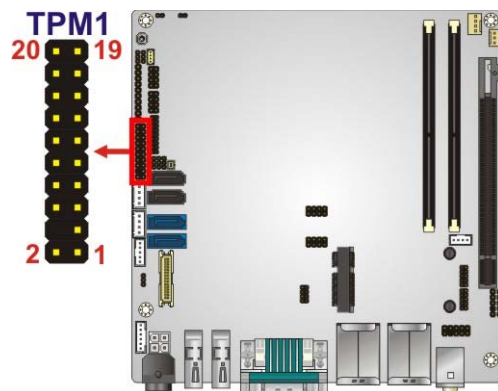

Figure 3-27: TPM Connector Location
- CN Location:** See **Figure 3-27**